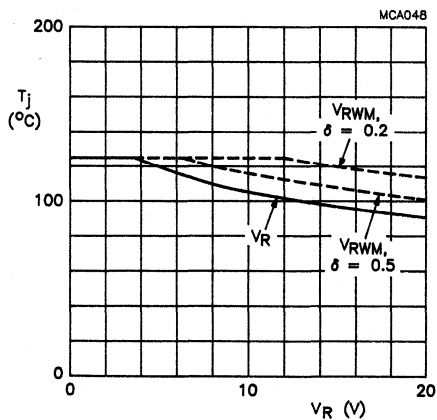

Fig.7 PRLL5817. Maximum permissible junction temperature as a function of reverse voltage; device mounted as shown in Fig.2.
- Determine the maximum permissible junction temperature $T_{j \max}$ (125 °C or the temperature at which thermal runaway occurs, whichever is lowest) from Figs 7, 9 or 11.